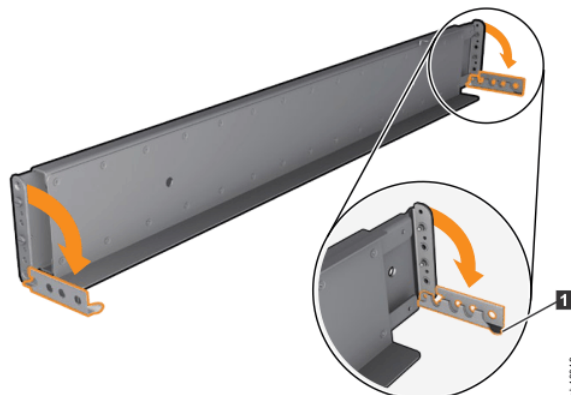

Figure 32. Opening the hinge brackets
6. At each end of the rail, grasp the tab **1** and pull *firmly* to open the hinge bracket (see Figure 32 on page 72).